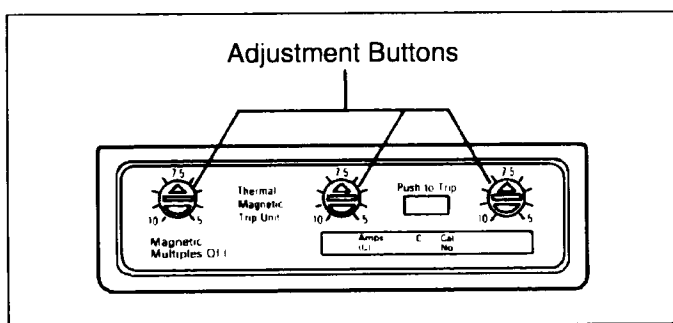

Figure 2-4 Trip Unit Magnetic Adjustment Buttons
**Magnetic Trip:** The magnetic trip on each pole may be adjusted by turning the adjustment button with a screwdriver. (See Fig. 2-4.) Trip units are shipped from the factory with the buttons set in the high position. The magnetic trip is calibrated at the factory to trip at an rms alternating current within plus or minus 10 percent of the high setting indicated on the trip unit nameplate, and within plus or minus 20 percent of the low setting. In the magnetic trip region (above 5 x  $I_n$ ), the trip current levels are approximately 40 percent higher for DC than for AC.
2-9. Press PUSH-TO-TRIP button with a small screwdriver to check manual tripping of the circuit breaker. (See Fig. 2-4.)
2-10. Adjust magnetic pick-up settings as required. (See Fig. 2-4.)